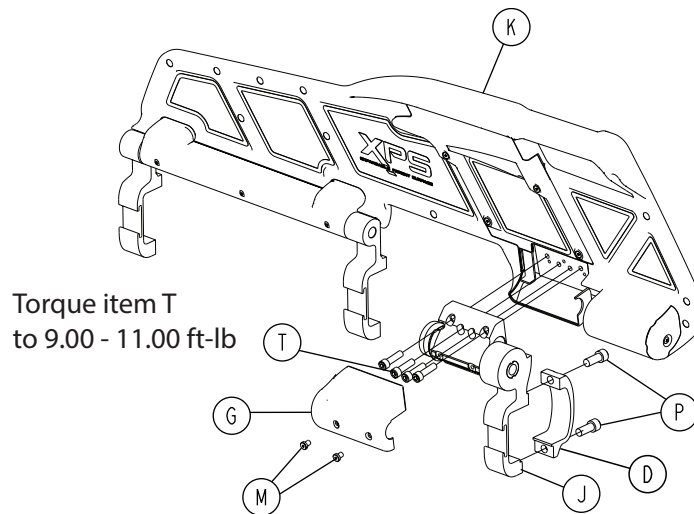

Figure 10 – Ratchet assembly components (XPS)
5. Using a 3/32" hex wrench, remove the two socket head cap screws (M) that secure the ratchet cover (G) to the ratchet assembly (J) (Figure 10). Remove and save the ratchet cover. Save the screws.
6. Using a 1/4" hex wrench, remove the socket head cap screws (P) that secure the siderail clamp (D) to the ratchet assembly at the foot end of the main assembly. Save the screws.
7. Using a 3/16" hex wrench, remove the four socket head cap screws (T) that secure the ratchet assembly to the overmold assembly (K). Remove and discard the ratchet assembly. Save the screws.